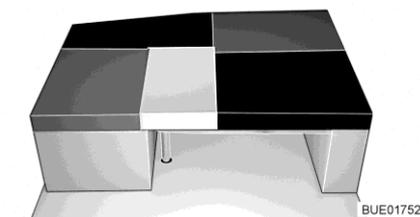

Fig. 154 After conversion
- Place the back cushion of the lateral seat/lateral bench on the table (between the seat cushion of the lateral seat/lateral bench and the additional cushion, see Fig. 154).